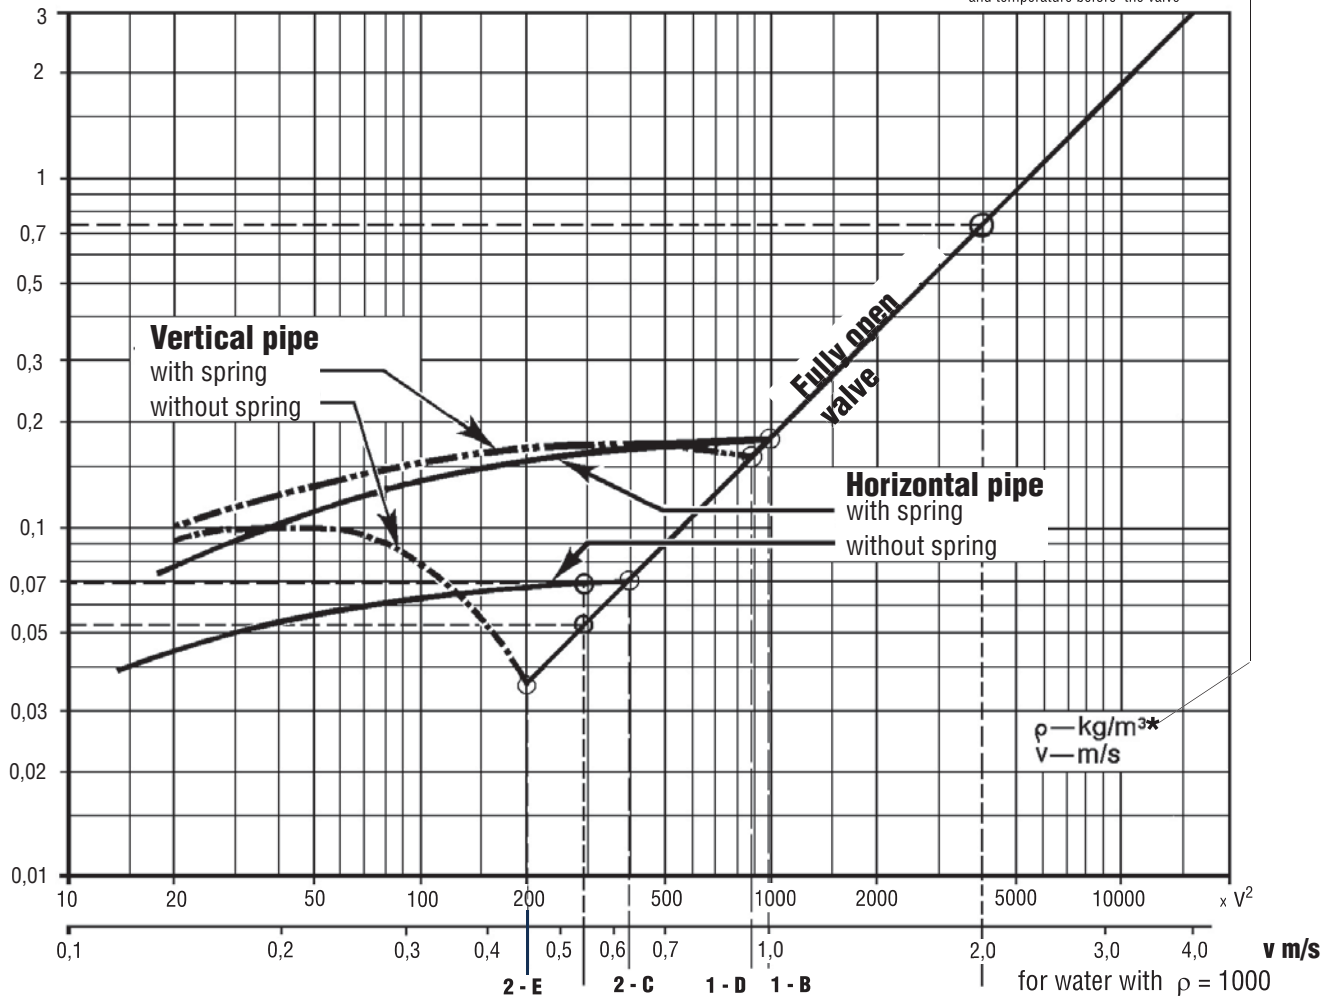

Fig. 1
The dynamic opening force on the disc depends on density of the medium and flow velocity in the pipe. Use the diagram in fig. 1. Set the value of ρxv^2 on the horizontal axis and check the curves.
The curves in fig. 1 represent sizes up to DN 250. The pressure drop is lower for larger sizes. Reduce the diagram pressure drop values with following factors:
- A.** Before the valve is fully open, the pressure drop across it exceeds the value shown - see fig. 1.
- 2.** Low-pressure gases. The opening dynamic force is affected by density. Make certain that velocity and density are adequate to open the valve - fig. 1.